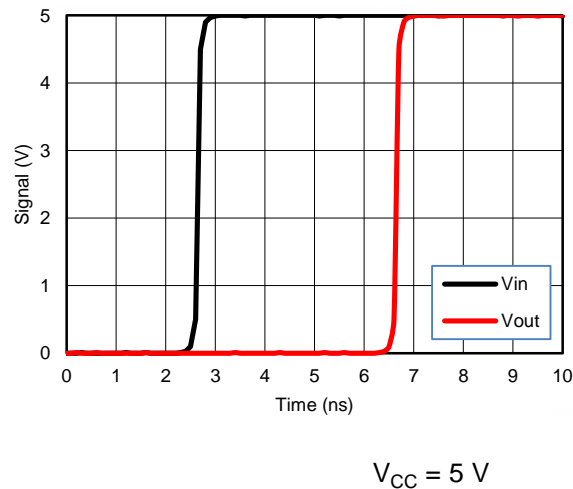

Figure 5. Simulated Input-to-Output Voltage Response Showing Propagation Delay
- Figure 5 illustrates the effects of frequency on output current.